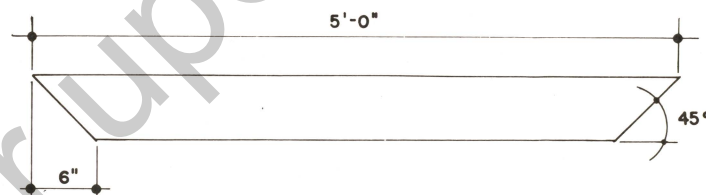

Figure 2. Skid showing bevel cuts required at each end. Cut 3 skids to these dimensions.
- (a) Cut each end of each skid off at a 45 degree angle so the finished crate can be skidded without digging into the ground. See Figure 2.